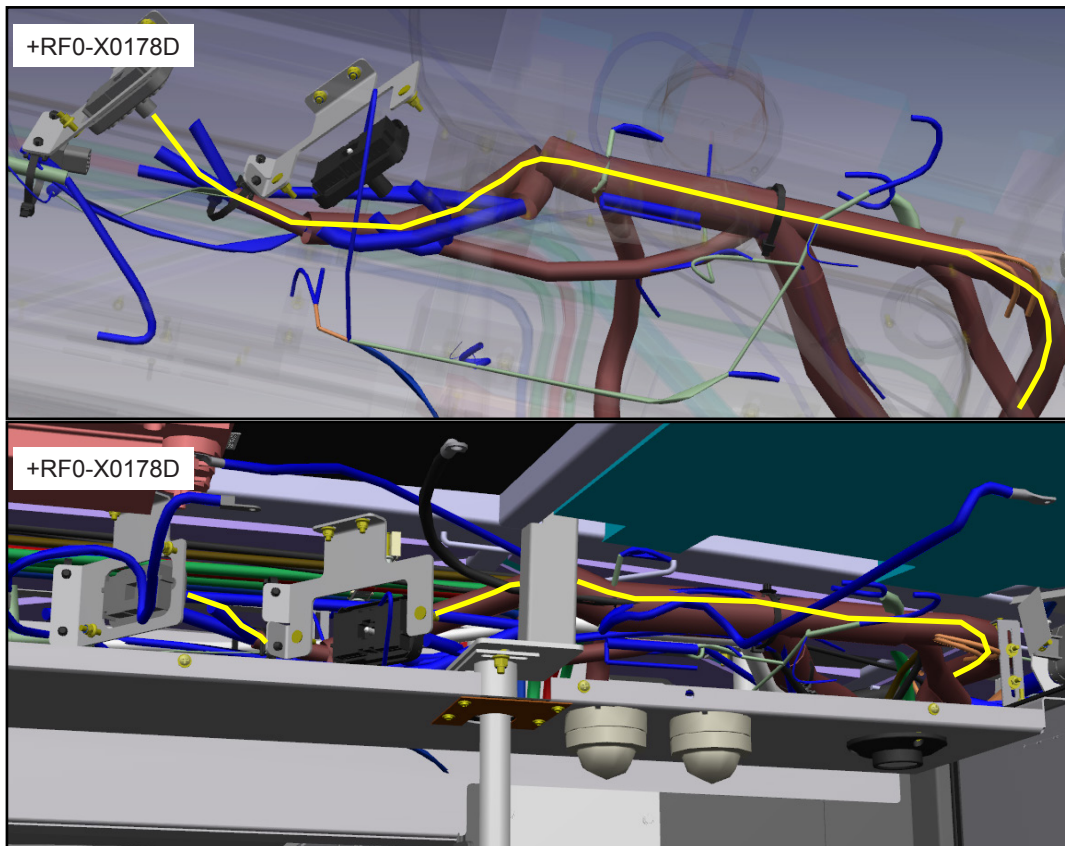

Figure 9 - WHA 01 Routing
- 1.17. Connect the cable CAB001VAC to +RF0-X0178D (see Table 3 and Figure 9).